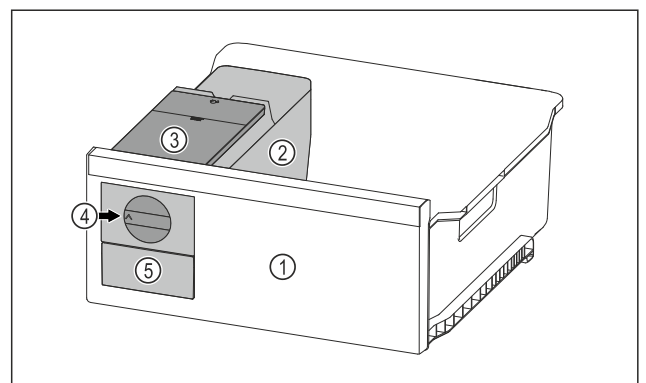

Fig. 97 Example illustration
- ▶ Turn the rotary knob Fig. 97 (4) clockwise as far as it will go.
- ▶ Ice cubes fall from the ice cube tray into the ice cube drawer Fig. 97 (5).